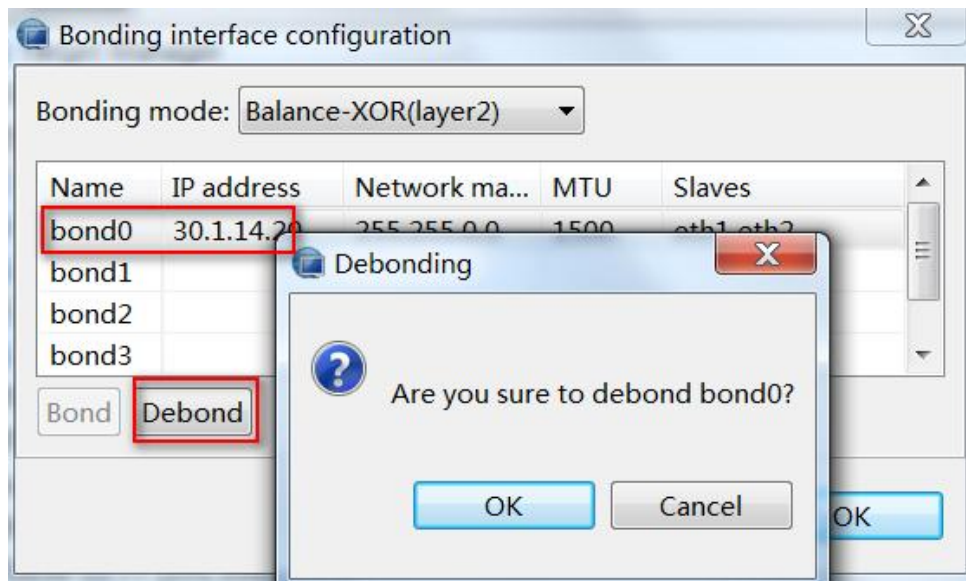

Figure 10-16 Debonding
- (1) Right click the controller name to be set, select [**Server Maintenance > Configure Network**] and click the [**Advanced**] option on the popup dialogue box, as shown in the following Figure 10-16:
- (2) From the “**Advanced Network Configuration**” dialogue box, you can add, modify and delete a route, and also configure the default gateway.